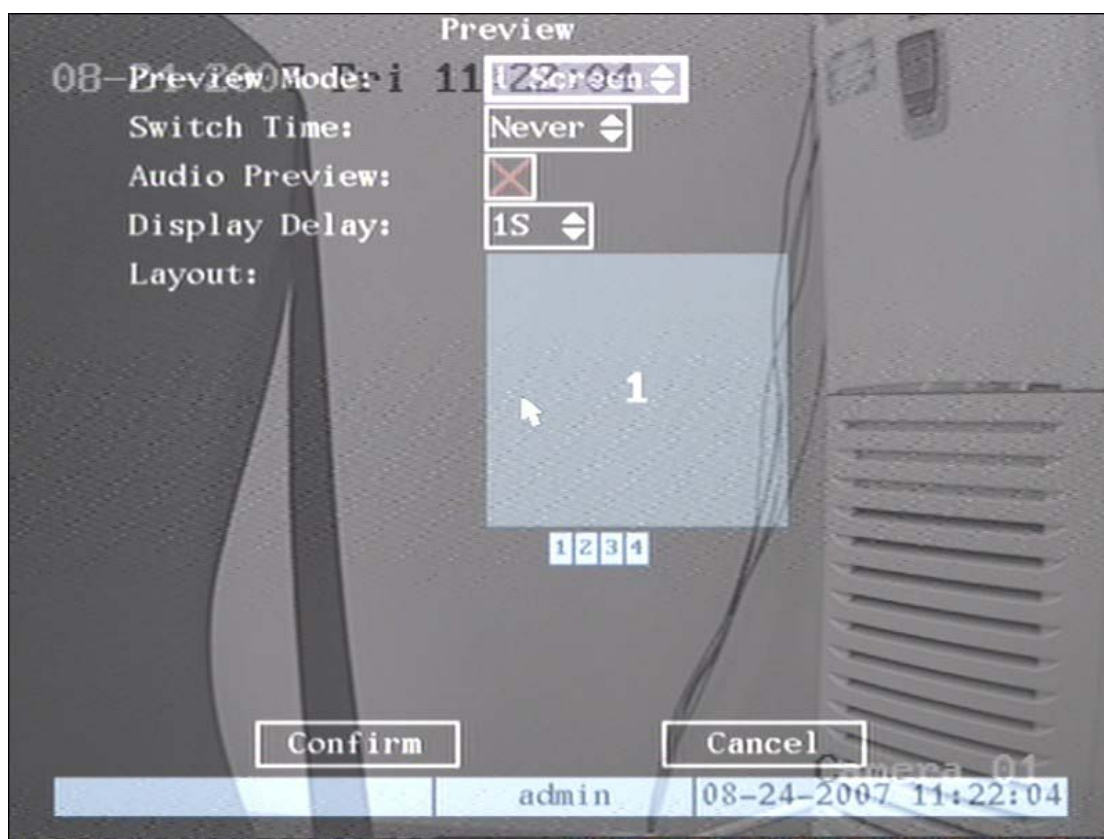

Fig 5.19 Setup preview mode
Step 1: Enter into “Preview” menu: In the main menu, move the “Active Frame” to “Preview” icon and press **[ENTER]** , you will enter into “preview” menu as shown in fig 5.19